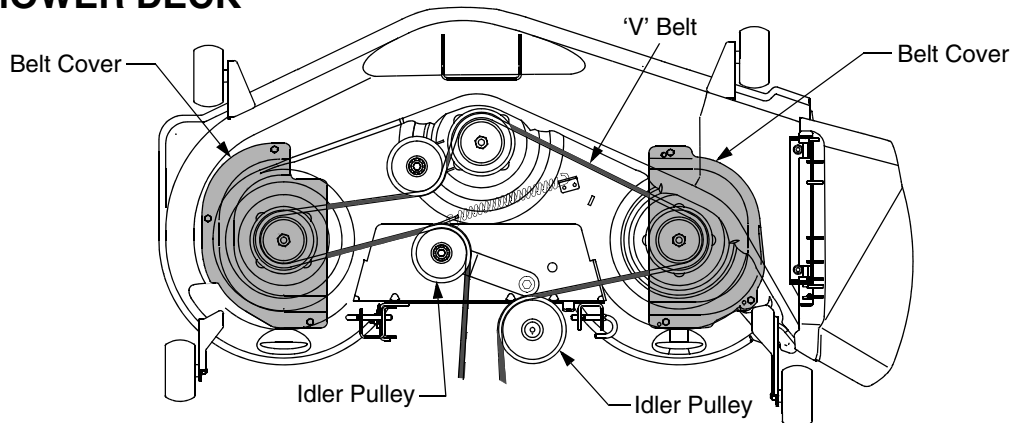

Figure 39
- Remove the hex tapping screws securing the belt covers to the deck and remove the belt from the spindle pulleys. Refer to Figure 39.
- Install the new belt around the spindle pulleys as shown in Figure 39 and reinstall the belt covers.